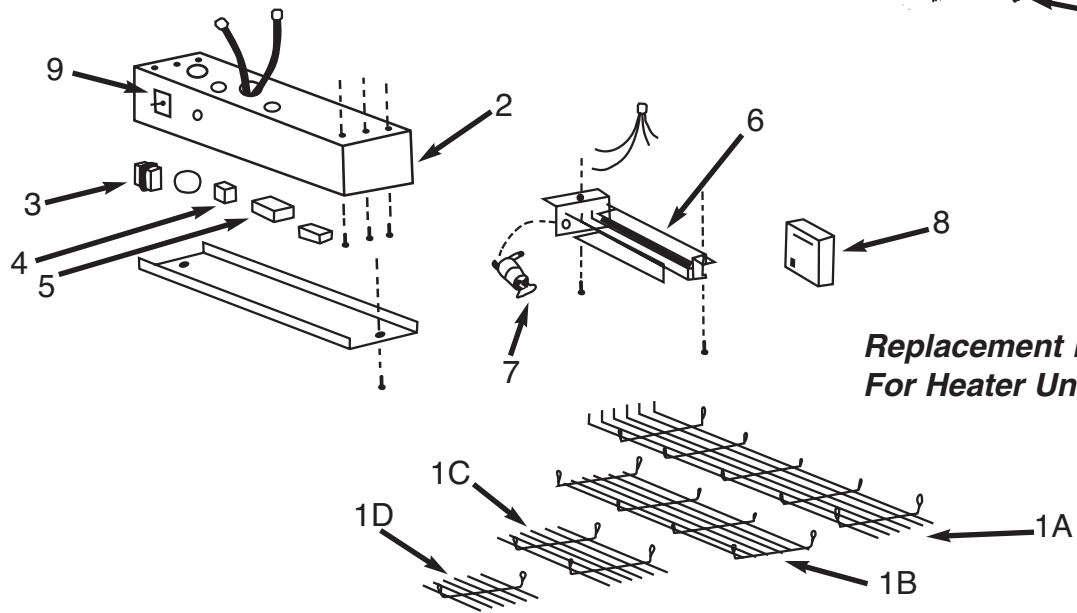

Figure 8 - Replacement Parts.
3. To replace blower wheel, remove the three slotted hex head screws on outer blower ring assembly (See Figure 8, Replacement Parts Illustration.) The wheel is held onto shaft by two hex head screws.